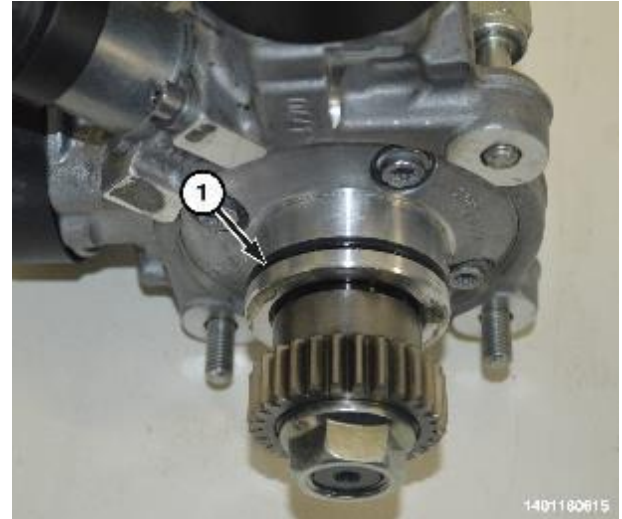

Figure 54 - HPFP O-ring Seal
32. Install a **NEW** O-ring seal (1) to the high-pressure fuel injection pump (Figure 54).